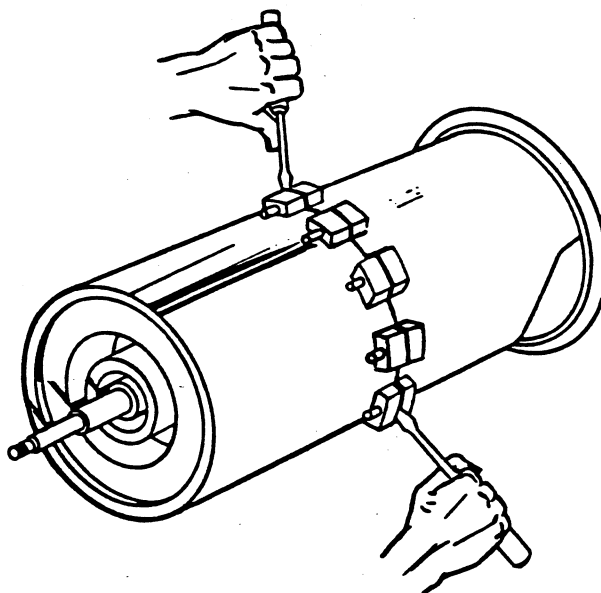

Figure 4. Separating Upper And Lower Motor Housings
Remove the deformed locknuts (54), and separate the lower motor housing (13) from the upper motor housing (23). If necessary, pry the housings apart using two screwdrivers as shown in Figure 4. Pry gently to loosen the gasket seal.